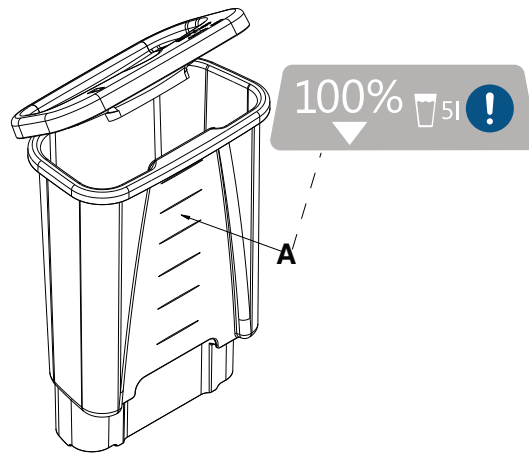

Figure 18 – Reservoir fill lines
2. Fill the reservoir with five liters of sterile distilled water. Do not fill past the top fill line to avoid water overflow (Figure 18).